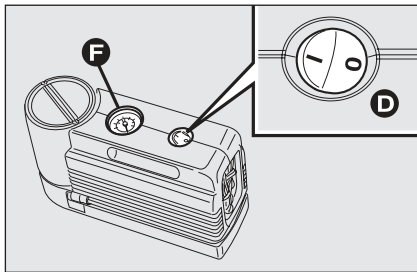
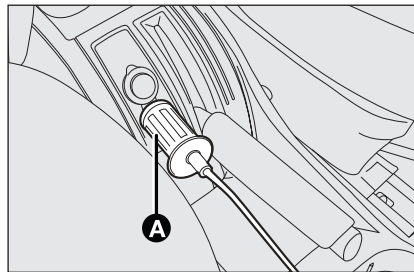

fig. 6
fig. 7
- make sure the compressor switch **D**-fig. 6 is set to **0** (off), start the engine and fit plug **A**-fig. 7 into the nearest current outlet and then turn on the compressor by setting switch **D** to **I** (on). Inflate the tyre to the pressure specified in paragraph "Inflation pressure" in section "Technical Specifications". Check tyre pressure on gauge **F** with compressor off to obtain precise reading;